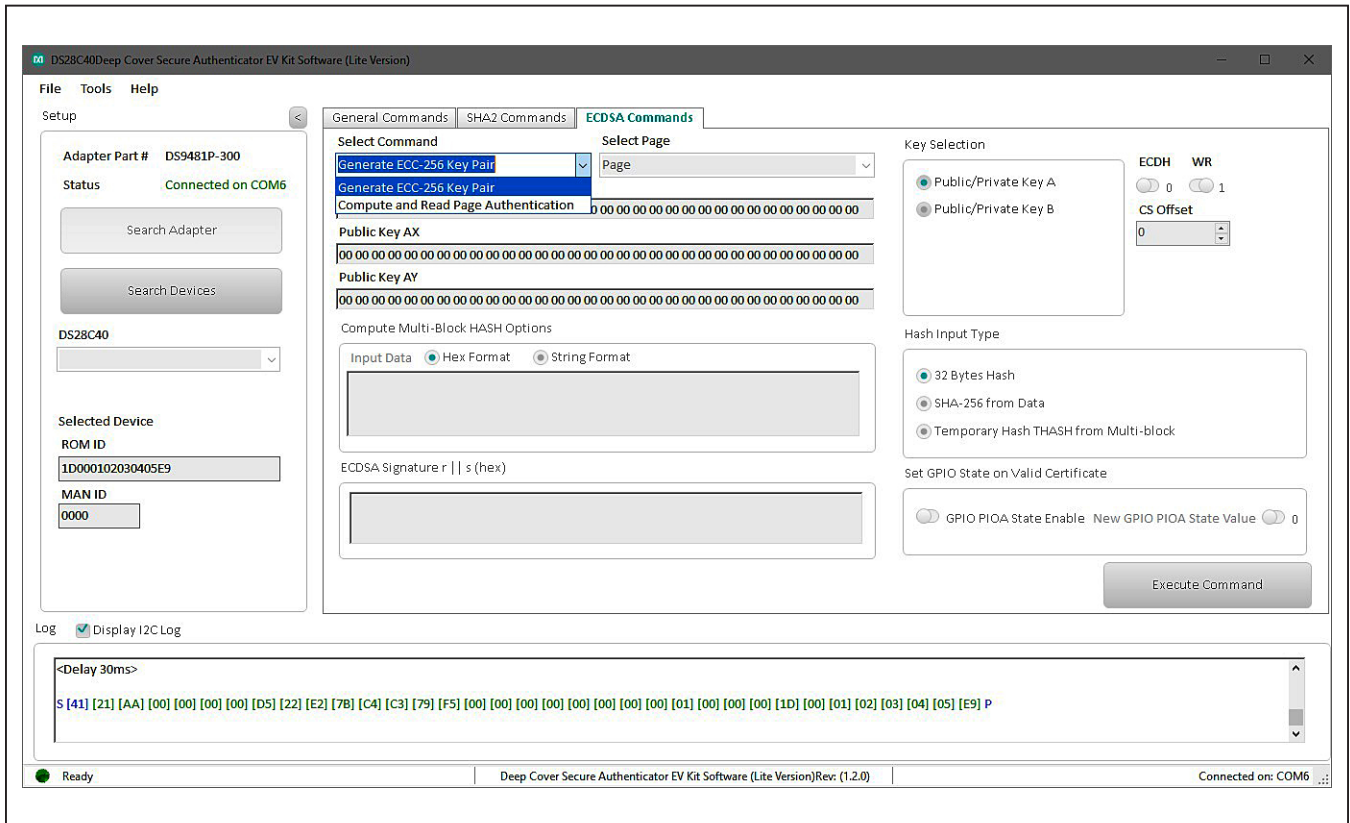

Figure 24. Generate ECC Key pair
- 1) Select the **ECCDSA Commands** tab (Figure 24).
- 2) From the **Select Command** drop-down menu, select the **Generate ECC-256 Key Pair** and select the desired **Public/Private Key** from the **Key Selection** combo box (Figure 24).